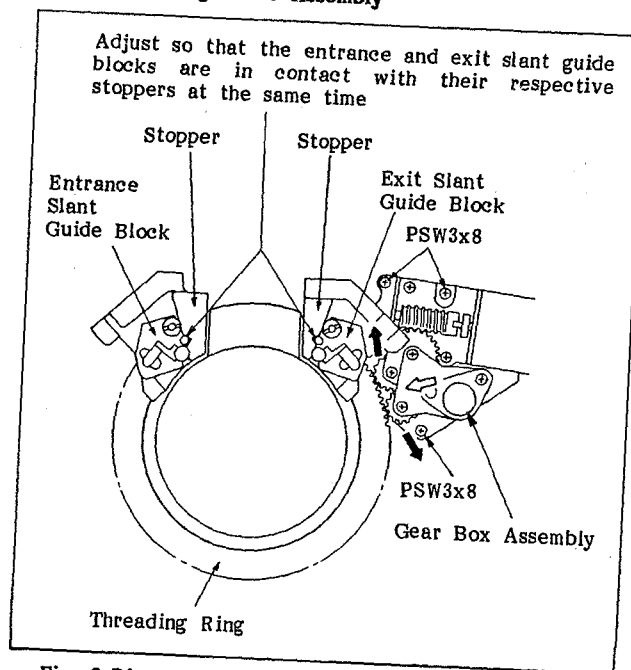

Fig. 6-74 Adjusting the Position of the Gear Box Assembly
7. Check that the entrance and exit slant guide blocks are in contact with each stopper at the same time as shown in Figure 6-74. If it is not, adjust it by rotating the gears in the directions of the black arrows while pushing the gear box assembly in the direction of the white arrow.